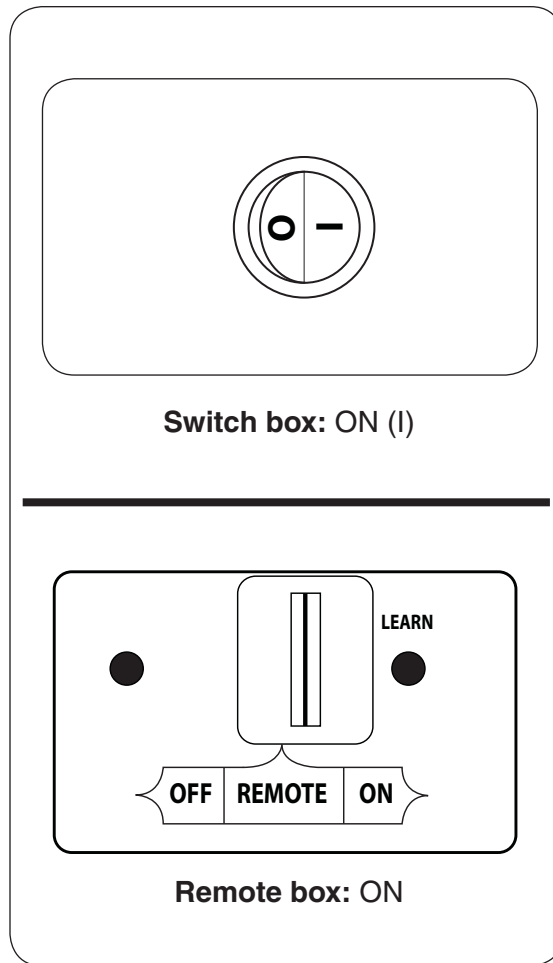

Fig. 21-1 Manual lighting
1. **Switch Box Models:** Locate the ON/OFF switch at the front of the switch box. Press the switch to the **ON (I)** position. See Fig. 21-1.
Remote Box Models: Locate the 3-position switch on the remote receiver (see Fig. 21-1), and slide the switch to the **ON** position.